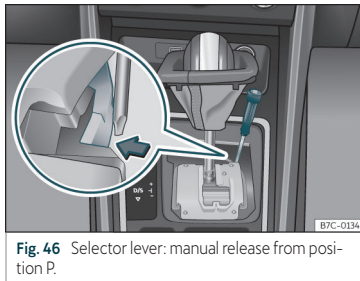

Fig. 46 Selector lever: manual release from position P.
- Using a screwdriver, press and hold the yellow unlocking tab sideways »» **Fig. 46**.